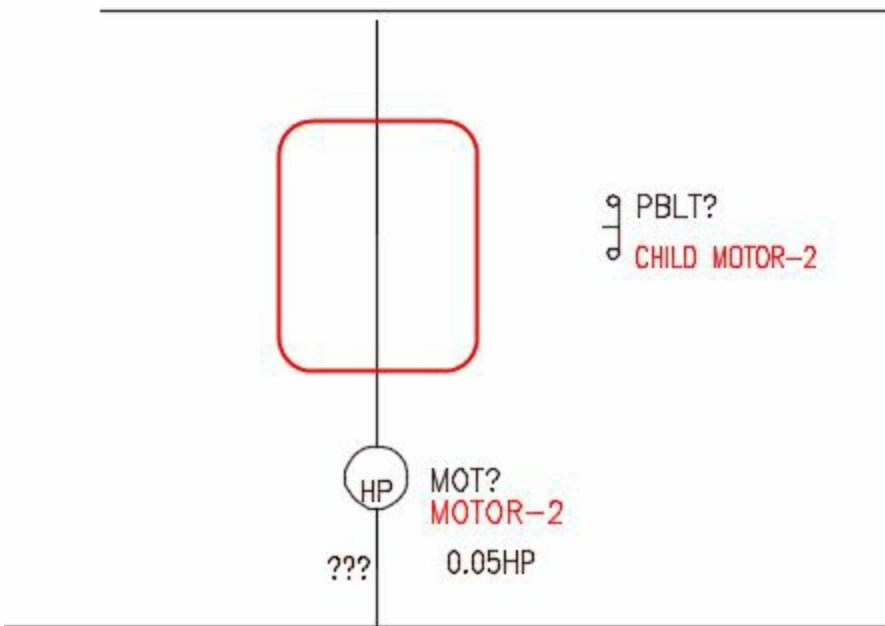

Figure-32. Circuit after moving component
- Click at the new position to place the component. The component will be placed and the circuit will be modified to fill the gap; refer to Figure-32.